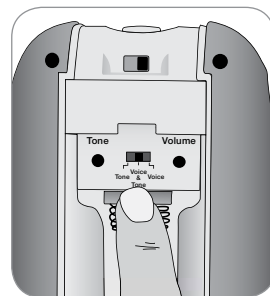

Fig. 4
3. Slide the MODE Select Switch to the desired alarm mode (fig. 4).